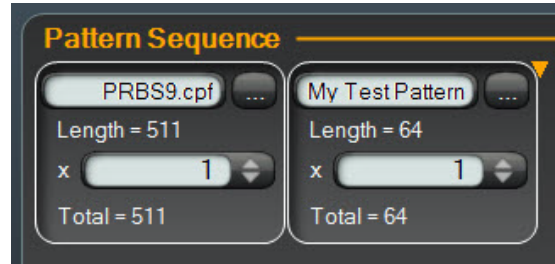

Figure 90. Creating a pattern sequence
3. Repeat this procedure to load additional sub-patterns. Figure 90 is an example of a pattern sequence consisting of a PRBS9 and a custom (user) pattern.